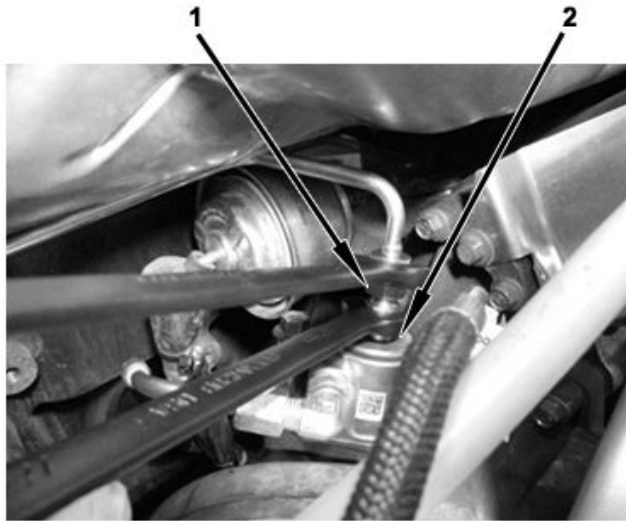

Figure 36. HCl Fuel Inlet.
17. Attach HCl fuel supply line nut (Figure 36, Item 1) to HCl fuel inlet (Figure 36, Item 2) and torque to 18 lb-ft (24 N·m).